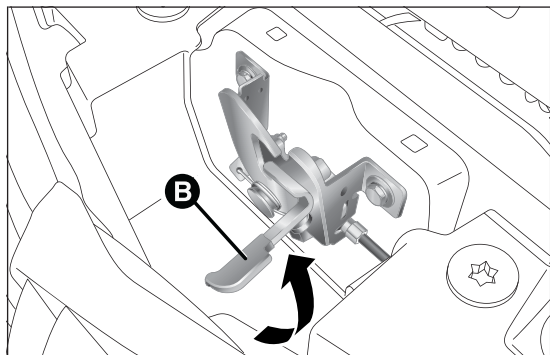

fig. 66
- move lever B fig. 66 to the left as shown in the figure;